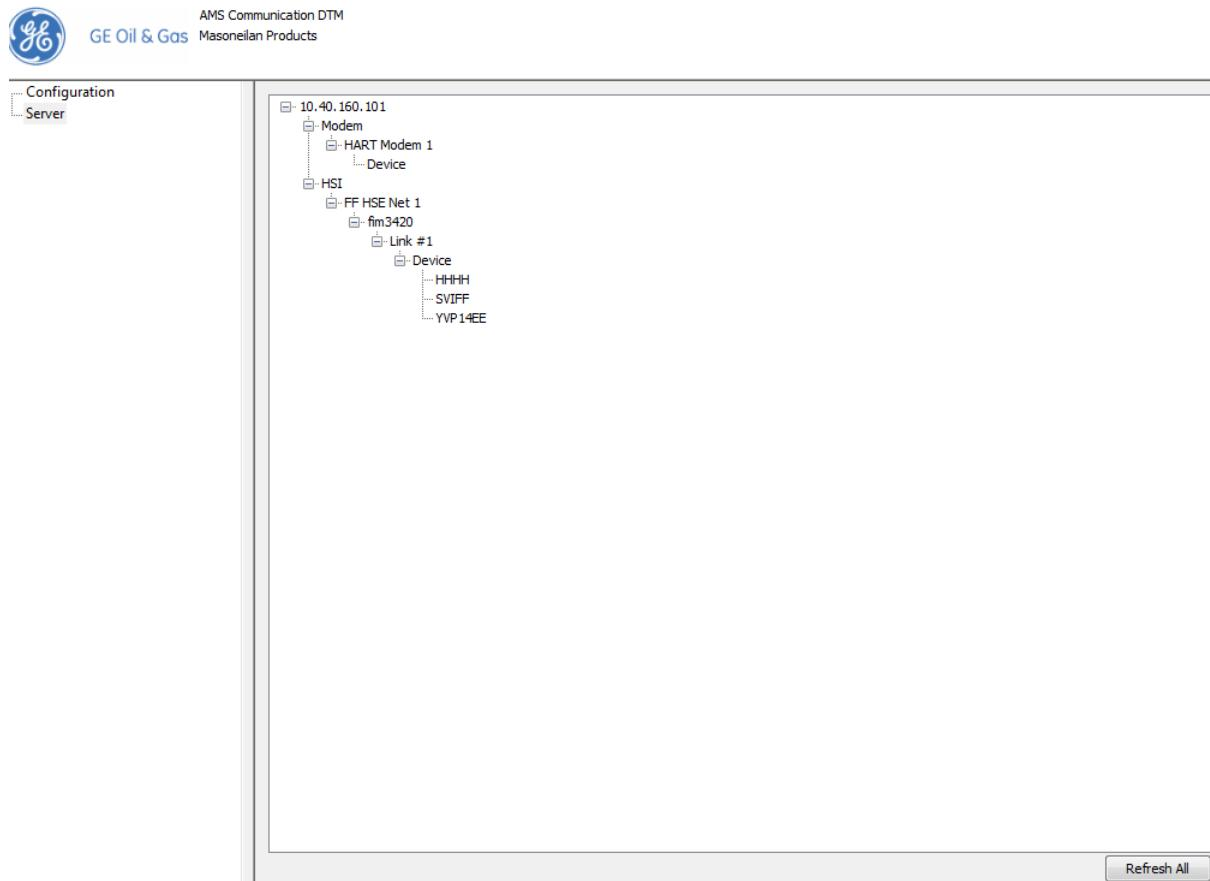

Figure 117 AMS Server Hierarchy Page
7. Click **Server** in the pane to the left and Figure 117 appears.